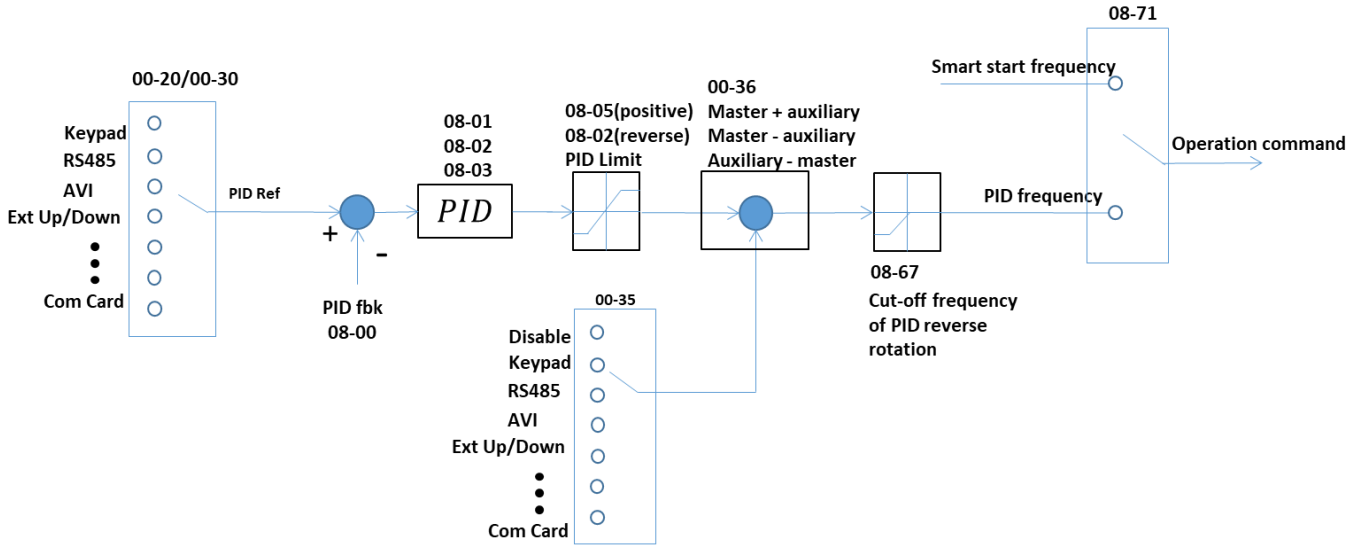
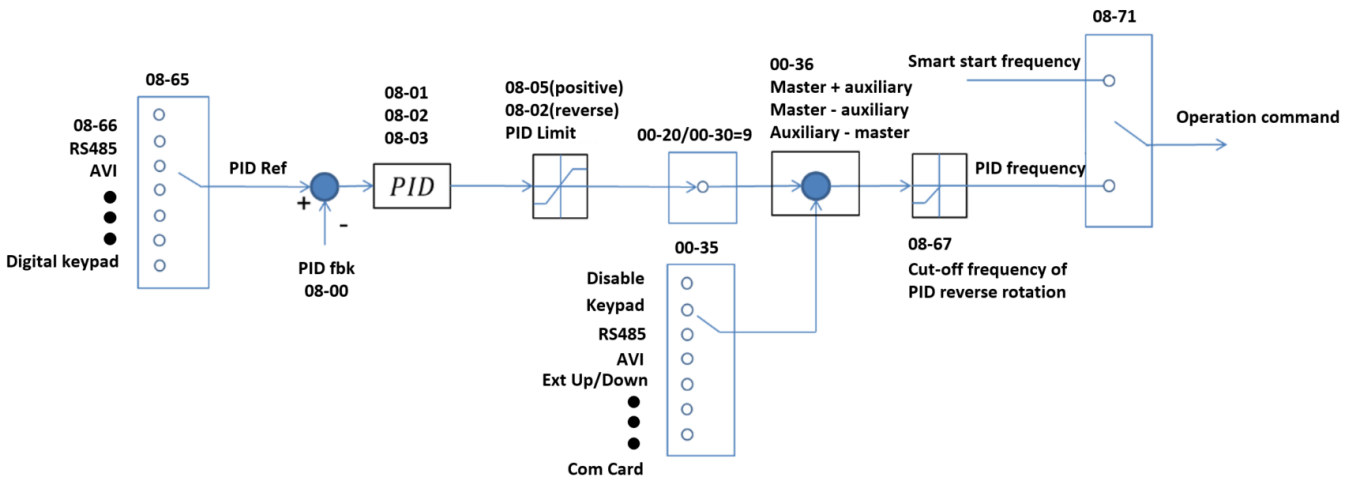

Figure 1 PID controller architecture when Pr.08-65=0
Figure 2 PID controller architecture when Pr.08-65≠0
-  When Pr.08-65=0, PID controller architecture shows as Figure 1. When Pr.08-65≠0, PID controller architecture shows as Figure 2.